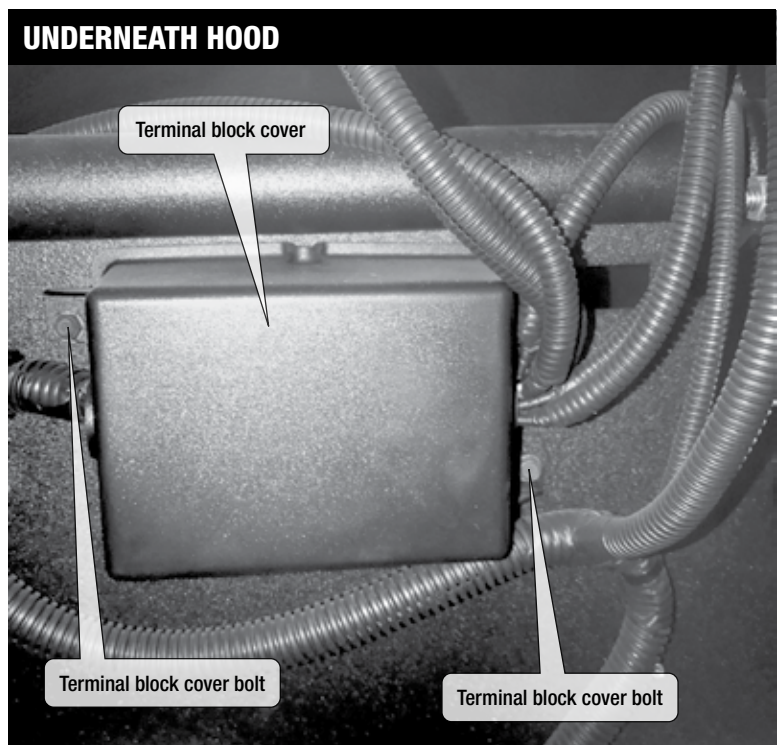

fig. 6
- 8 Remove the terminal block cover under the hood of the vehicle using an 5/16" socket on the two terminal block cover bolts (see figure 6).